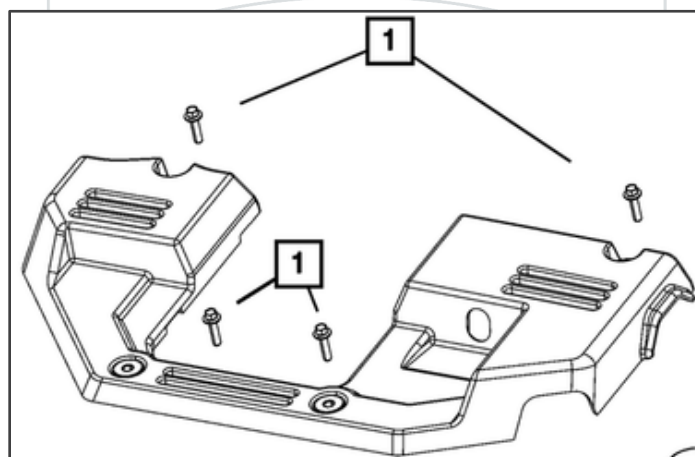

Figure 2
2. Remove the engine cover (Figure 2):